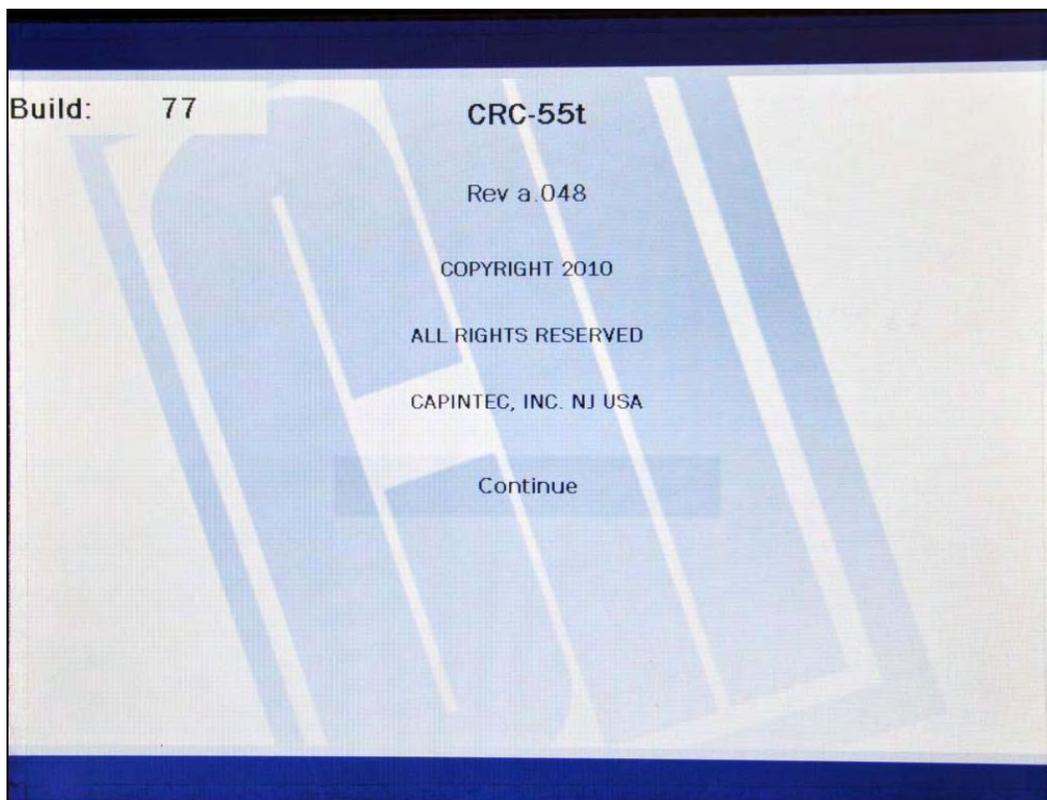

Figure 4-6 Startup Screen
6. After a few seconds, Figure 4-6 Startup Screen will appear.